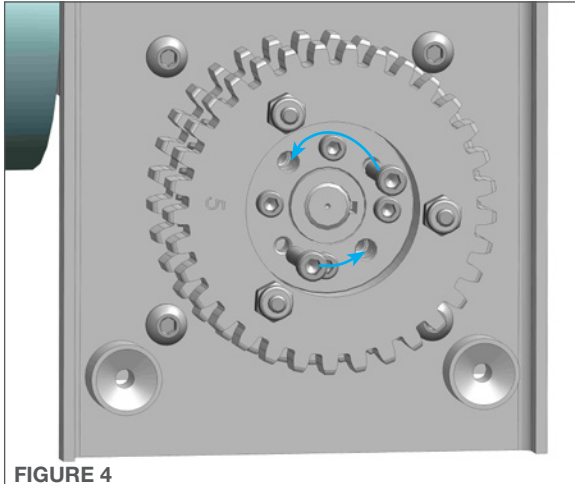

FIGURE 4
4. Remove the two #10-24 socket head cap screws and replace them into the holes two positions in the counter-clockwise direction. **(Figure 4)**
4. Install the Lower Cover Plate with the appropriate Split Bushing halves attached. Tighten the 2 socket head cap screws with flat washers. **(Figure 4)**